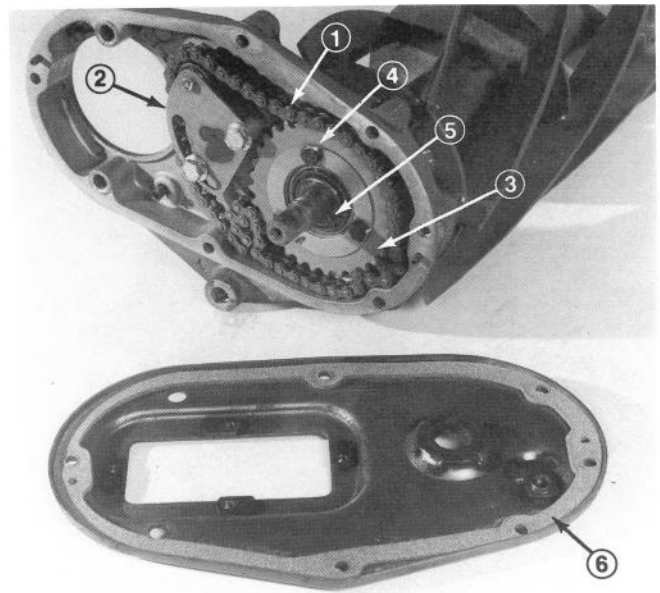
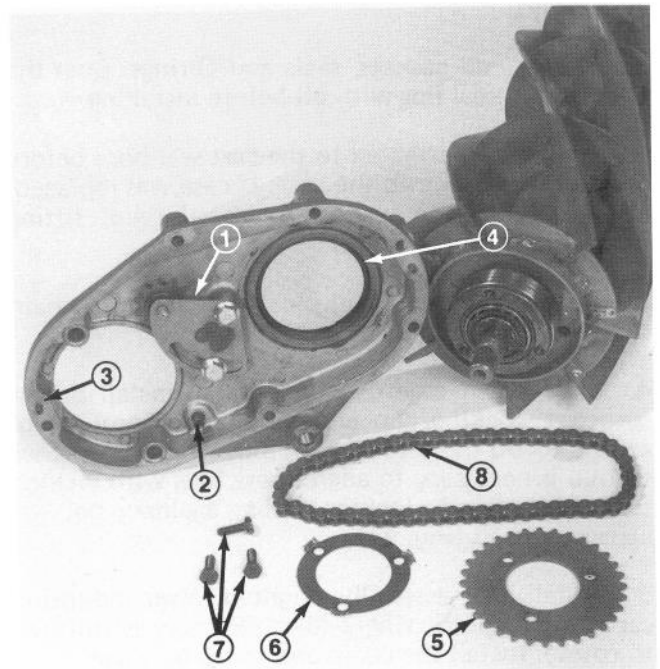
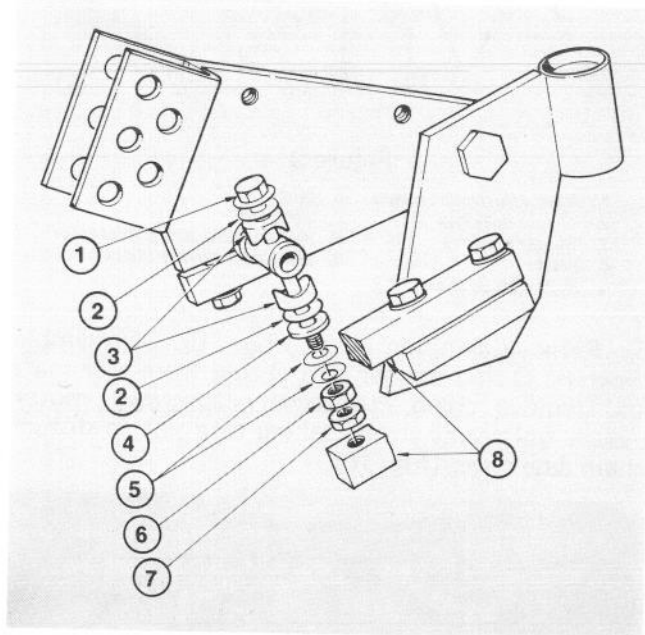

Figure 11
Figure 12
Figure 14
6. Disassemble chain from idler and driven sprocket, drive locking tabs away from driven sprocket capscrews and remove capscrews, locking clip and sprocket (Fig. 11).
7. Remove chain case from reel and remove idler assembly, relief fitting and roll pins if case is to be replaced (Fig. 12).
8. Lay chain case, gasket side down, on flat surface and remove the seal by inserting a flat edged driver into slots in the case and impacting driver with a hammer (Fig. 12).
2. Apply #2 permatex to the cast seal bore before pressing the seal into the case. If case was replaced, also apply permatex to threads of relief fitting before installing (Fig. 12).
3. Install alignment roll pins (Fig. 12) into chain case and cover gasket (Fig. 11) into cover.
4. Slide chain case over wear ring, install driven sprocket, locking clip and capscrews. Torque capscrews to 90 in.-lb (10 N·m), plus whatever further torque is necessary to align screw flats with locking tabs and bend locking tabs against flat of capscrew head (Fig. 11).
8. Install bedbar-bedknife assembly; refer to Servicing The Bedbar-Bedknife Assembly, item 8, page 4.
9. Assemble adjusting screws, thrust bearings, thrust washers, etc. to reel shaft. Install the Belleville washers inverse to one another (Fig. 14).
2. Remove the bedbar-bedknife assembly; refer to Servicing The Bedbar-Bedknife Assembly, item 1-3, page 3-4.
4. Disassemble adjusting screw assembly from left end of reel shaft (Fig. 14).